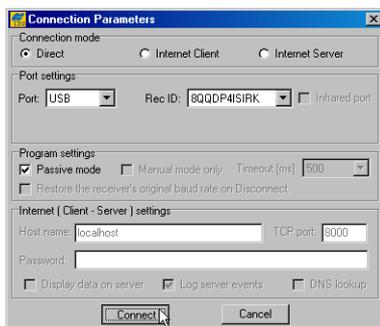

Figure 1-7. USB Connection Parameters
6. Press **Connect** (Figure 1-7).